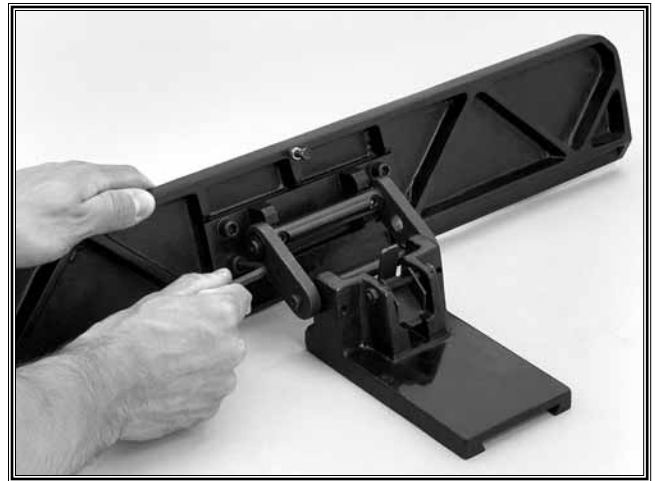

Figure 11. Attaching the fence to the fence adjusting bracket.
1. Attach the fence to the fence adjusting bracket with four 8mm flat washers and four M8-1.25 x 20 cap screws (**Figure 11**).